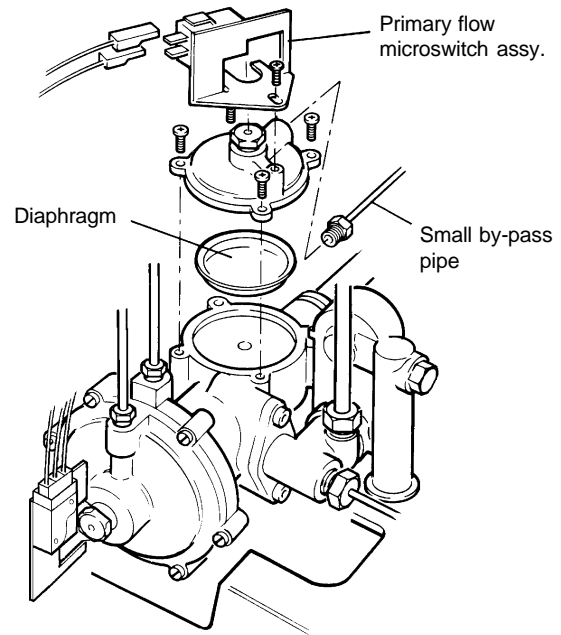

Fig. 37
8.35 PRIMARY FLOW VALVE DIAPHRAGM - Fig. 37